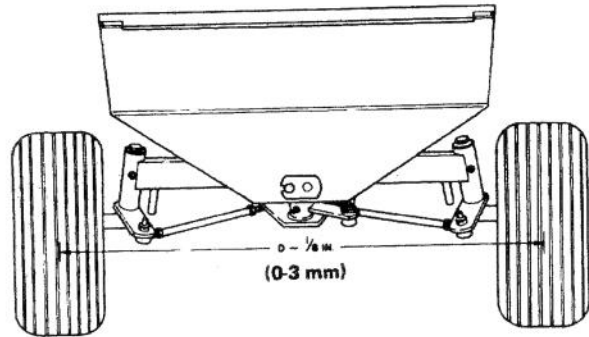

Figure 39
2. Loosen the jam nuts on both tie rods (Fig. 39). Adjust both tie rods until center-to-center distance (Fig. 39) at front of rear wheel is 1/8 of an inch (3 mm) less than that at back of rear wheel.
3. When toe-in of rear wheels is set correctly, tighten jam nuts against tie rods (Fig. 39).